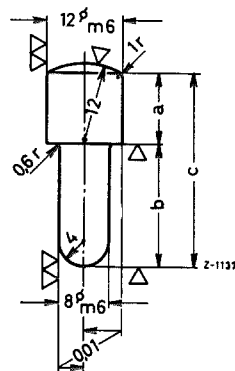

Fig. 01-4/64
1) If a partition plate and a clutch housing with 12 mm dowel pin bores is installed, a dowel pin must be made as shown in Fig. 01-4/64. Dowel Pin 180 991 02 62 can be used in an emergency.